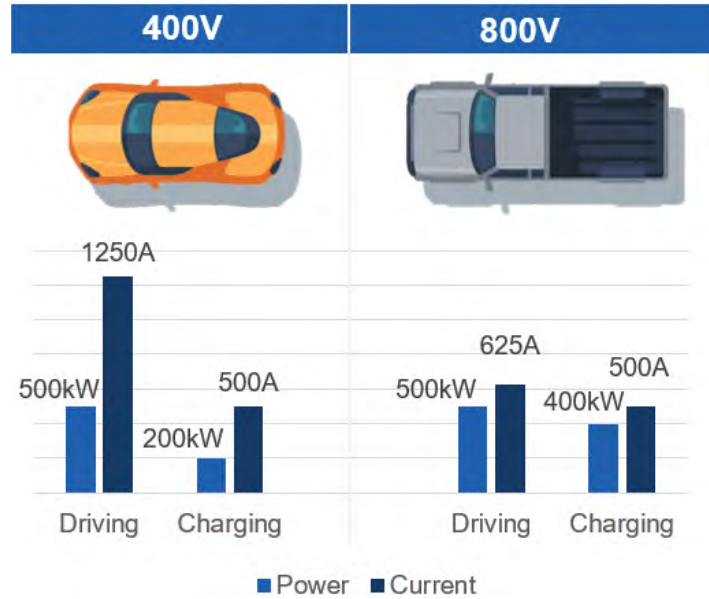

**Figure 1. Shifting to 800V can improve both driving and charging performance**
1. **Faster charging:** One of the primary advantages is the ability to support faster charging times. With 800V systems, EVs can charge more quickly when using compatible high-power chargers, reducing the time spent at charging stations. As shown in Figure 1, DC fast chargers are often limited by current (ex. 500A). An 800V EV can charge at twice the power for a given amperage.
4. **Enhanced performance:** Higher voltage allows for greater power delivery to the electric drive motor, which can improve acceleration and regenerative braking capabilities. Figure 1 shows how a 400V EV requires twice the amperage as an 800V vehicle to achieve the same driving power and performance.